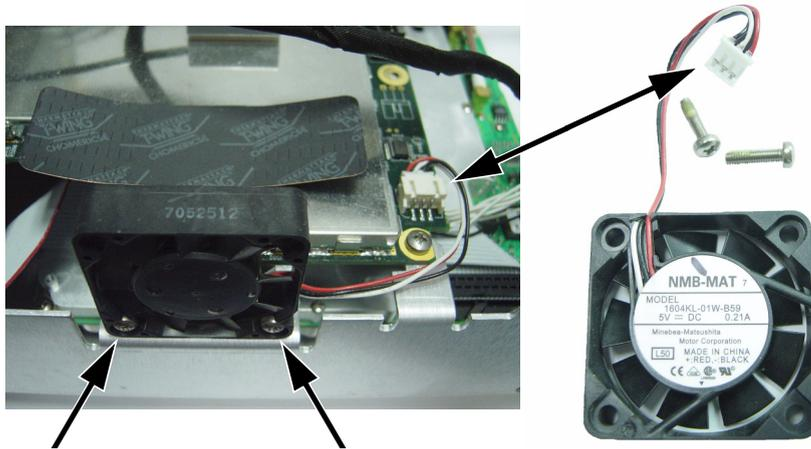

Figure 4-14. Fan Assembly, Mounted and Removed
1. Disconnect the fan power plug from the Main PCB. Refer to the arrow in Figure 4-14.